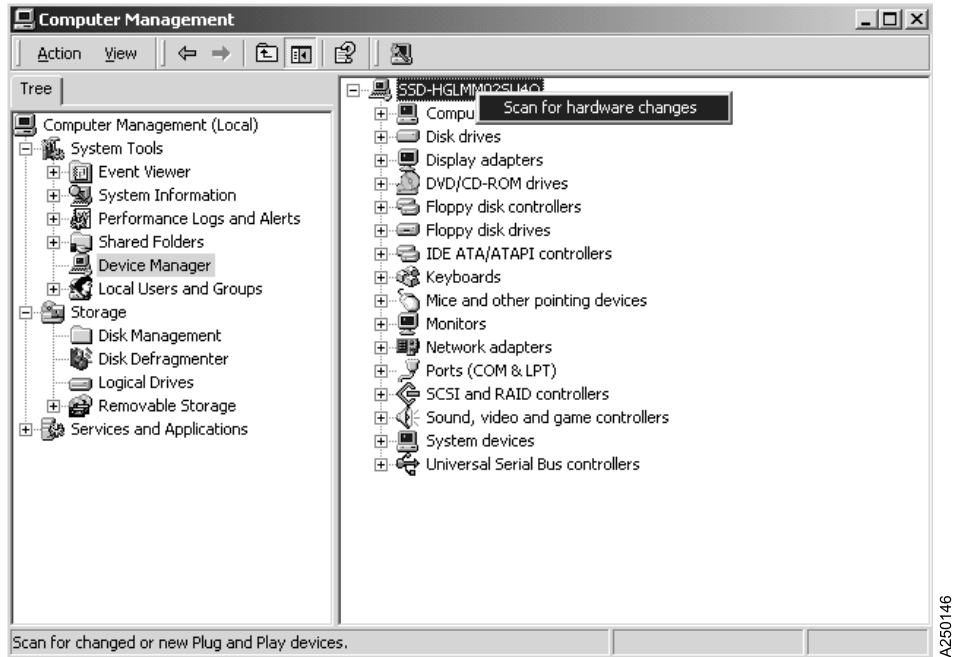

Figure 33. Scan for Hardware Changes Menu
15. If Ultrium devices are not listed, right-click your computer name in the rightmost window, then click **Scan for hardware changes**. See Figure 33.